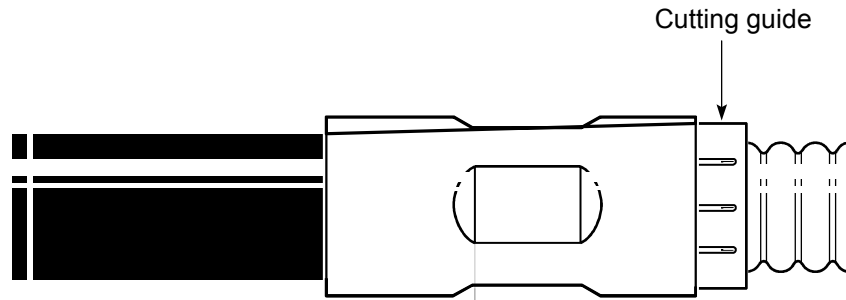

Figure 72 – Adding the cutting guide
5. Slip the outer conductor cutting guide over the cable and onto the spring ring, as shown in Figure 72.